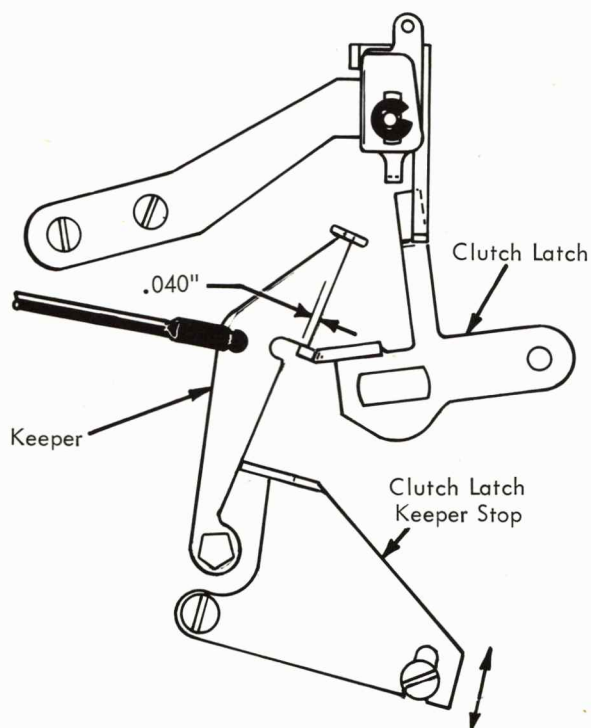

FIGURE 150.7 Carrier Return Clutch Latch Keeper Stop
10. Carrier Return Clutch Latch Keeper - The clutch latch keeper stop should be adjusted to limit the engagement of the keeper with the clutch latch to .040" (Fig. 150.7).